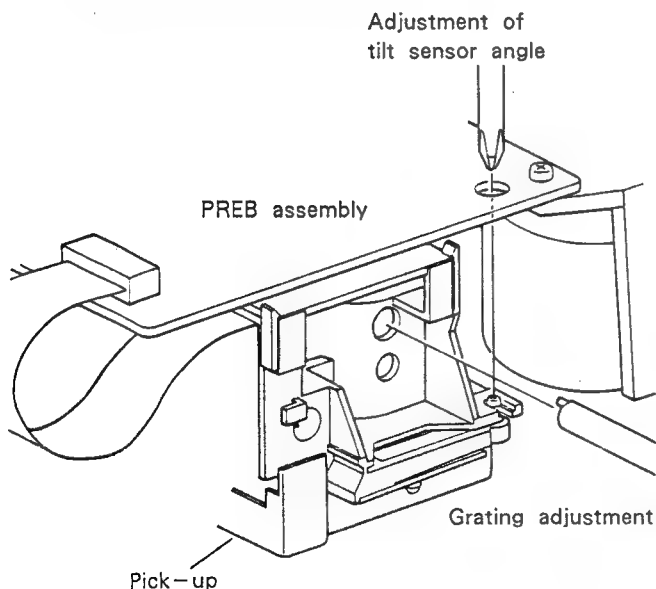

Fig. 7-2. Pick-up Adjustment Locations
- Connect Pins ⑩ and ⑪ of IC301 (PM4001) of SRVB unit. (TRKG servo is open.)
- Mount the screwdriver for grating adjustment as shown in Fig. 7-2.